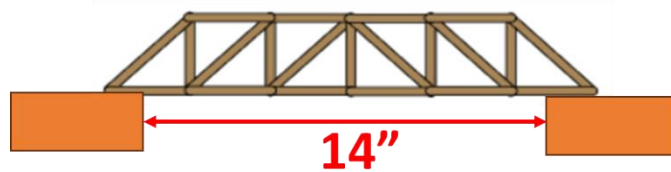

Figure 3: Minimum Dimensions for the Bridge
- a. The bridge must stand independently and cover a span exceeding 14 inches, with no specified limit on the total length. Please ensure a suitable contact length for the bridge to rest on the testing apparatus supports. The maximum load will be considered a result of either structural failure or the bridge slipping off the supports. (Figure 3)
- b. The bridge's width must exceed 3 inches, with no restriction on the total height. (Figure 3)